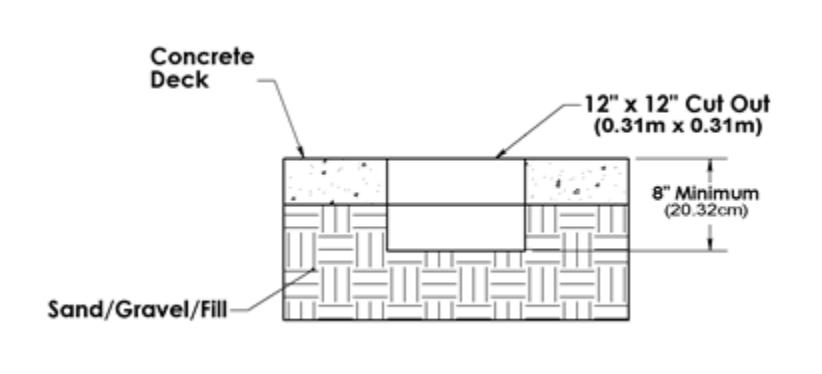

Figure 2
- b. Use a concrete cutting saw; cut the 12" x 12" square out of the existing concrete deck. Using a heavy/sledgehammer to break the cut section of concrete and remove from the deck. See Figure 2.